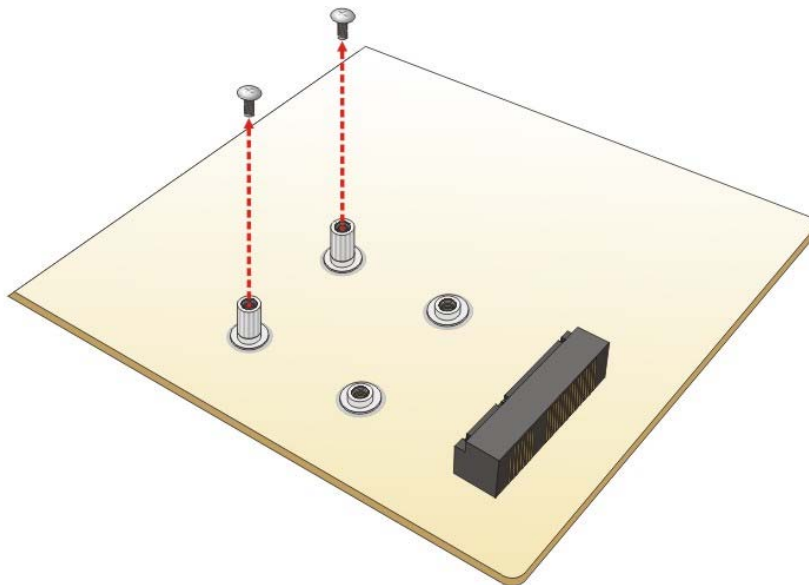

Figure 4-2: Removing the Retention Screws
Step 2: Remove the retention screws. Remove the two retention screws as shown in Figure 4-2.